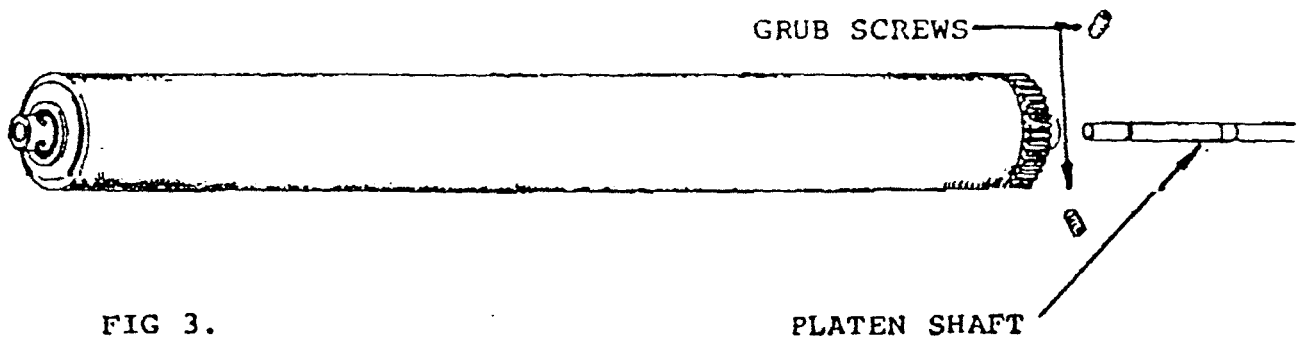

FIG 3.
- 1.4 Loosen 2 grub - screws fixing the platen shaft (Fig 3.) and pull the platen shaft to the right and the platen to the left and remove platen.